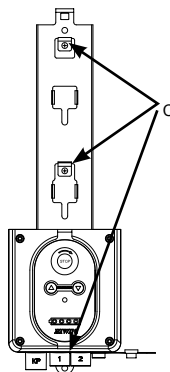

Fig. 2
2.1.4 Install a support on the position, and fix on C point by screws (Fig. 2).